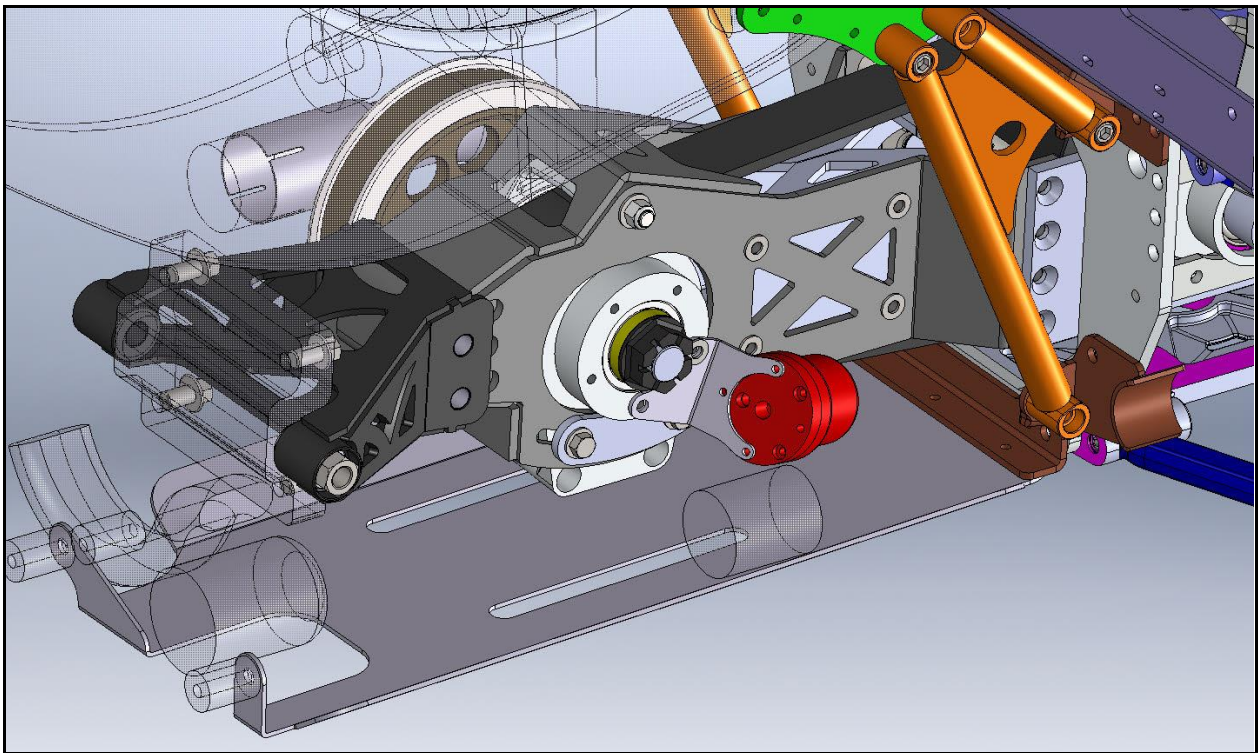

fig 5
1. Install the Gravel Pan under the tab on the Lower Rear Mount with three 1/4-20 x 3/4 HHCS, three flat washers and three nyloc nuts. Install the HHCS from the bottom up and leave finger tight (see fig 5).